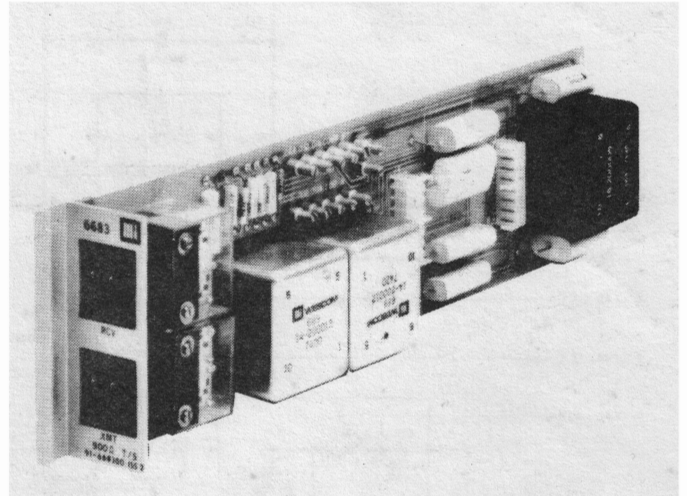

Figure 1. 6683 Terminating Set
1.02 The 6683 (Figure 1), 6684, and 6685 Terminating Sets are plug-in modules used to provide 2-wire termination of a 4-wire facility. They are identical except for 2-wire drop impedance; the 6683 matches a 900-ohm drop, the 6684 matches a 600-ohm drop, and the 6685 can be arranged to match either a 600- or a 900-ohm drop. Each module consists of a two-transformer hybrid, Network Building-Out (NBO) capacitors, and a compromise balance network. Three-digit thumbwheel attenuators are provided in the 4-wire